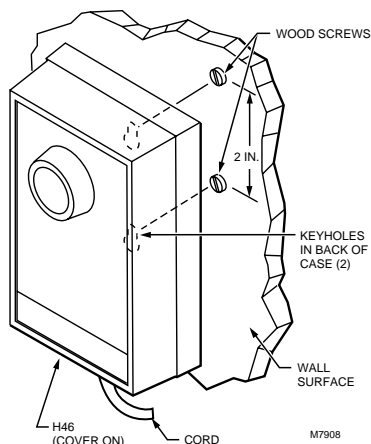

Fig. 2. Mounting H46E with two screws.
1. At the selected location, insert the two wood screws provided into the wall 2 in. (51 mm) vertically apart and protruding 1/16 in. (2 mm) from the wall. See Fig. 2.